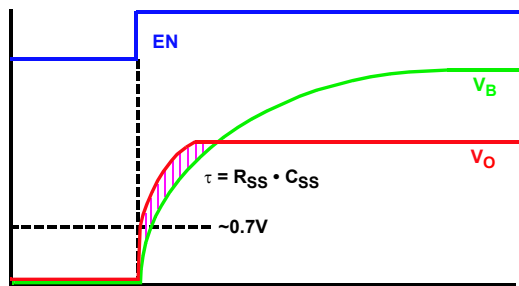

FIGURE 40.
The PNP transistor in this circuit provides a low impedance path between the output voltage and the feedback pin. This has the effect of regulating the output very near the reference voltage of 0.8V. As the voltage on C_{SS} is charged through the resistor R_{SS} , the base voltage of the PNP transistor rises. The collector current will be continually reduced as the base voltage increases, causing more current to flow in $R1$ and subsequently increase V_O . The output voltage will track the R-C ramp on C_{SS} until the PNP is completely turned off, and all the current from V_O to FB is flowing in $R1$. At this point, the soft-start circuit has no effect, and the converter acts normally. Figure 40 shows the start-up event with the addition of the R-C network and PNP transistor.
As shown in Figure 40, the time constant of the start-up (T) is the product of the magnitudes of R_{SS} and C_{SS} . Making either of these two values larger will slow the soft-start time, and subsequently reduce the inrush current according to Equation 1.